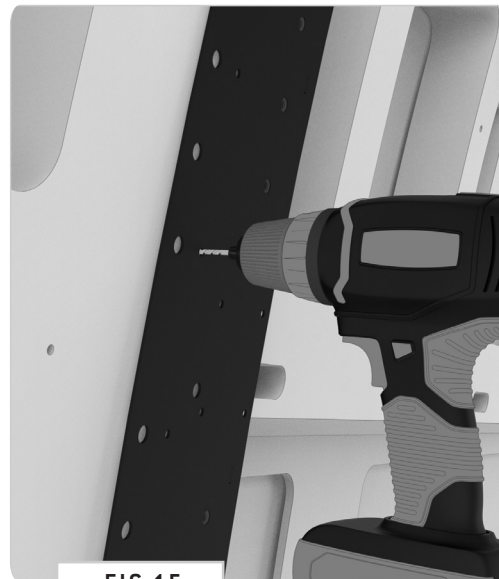

FIG 15
**5.2 Securing the Passenger Side Rear Bracket:** Double-check your measurements against your marks and proceed to secure the **Passenger Side Front Bracket** by drilling through all of the **Rivet Holes** with a **1/8" or similar sized Drill Bit (FIG 15)** and painting with a rust preventative paint.